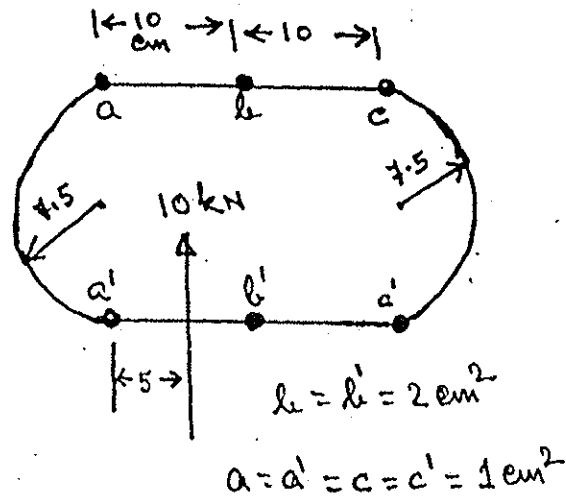

Fig. 3
14. (a) Find shear flow for the closed tube shown in the fig. 3.